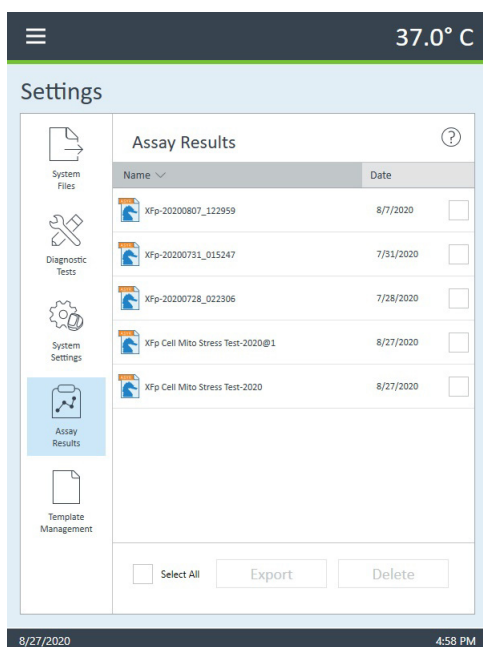

Figure 24. Assay results view.
- 1 **Assay results:** Individual assay results can be viewed by clicking the small check box next to the result file to view and click **View**. See Figure 24.